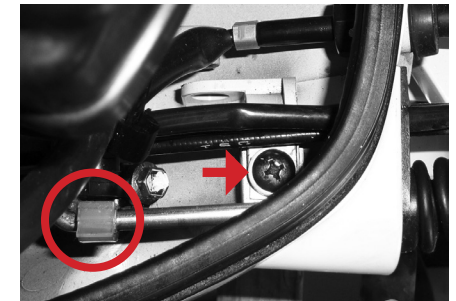

Figure 2
- Fig. 2: At front right corner of motor, remove screw indicated by arrow.
- Fig. 2: Remove shift rod from clip in circle.